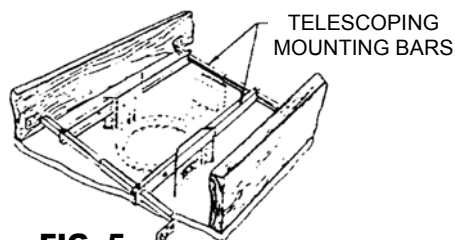

FIG. 5
**For wood joist construction:** TELESCOPING MOUNTING BARS No. 7994 (order separately) may be used to secure MOUNTING FRAME (Fig.5).